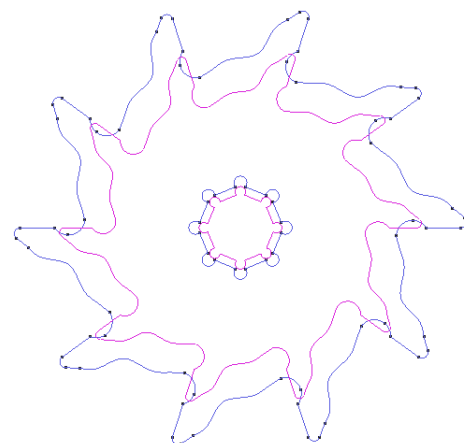

Figure 43. The surface of the new optimized design
- 12 . Create the hole in the surface of the wheel using **Geometry->Edit->Hole NURBS Surface**, select the profile surface and the lines defining the hole and press **ESC** twice. The result is shown in Figure 43.